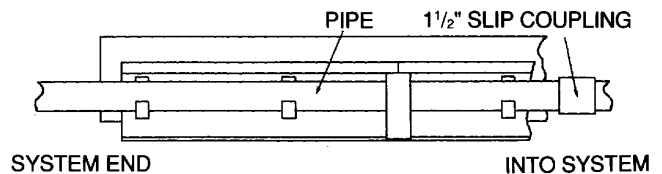

Figure 10
3. Place a 10' section of  $1\ 1/2"$  pipe **with the metered holes up** into the pipe hangers at the drain end of the system. Enough pipe should extend beyond the end of the top cover support to later attach a  $90^\circ$  elbow for plumbing installation as in figure 10.